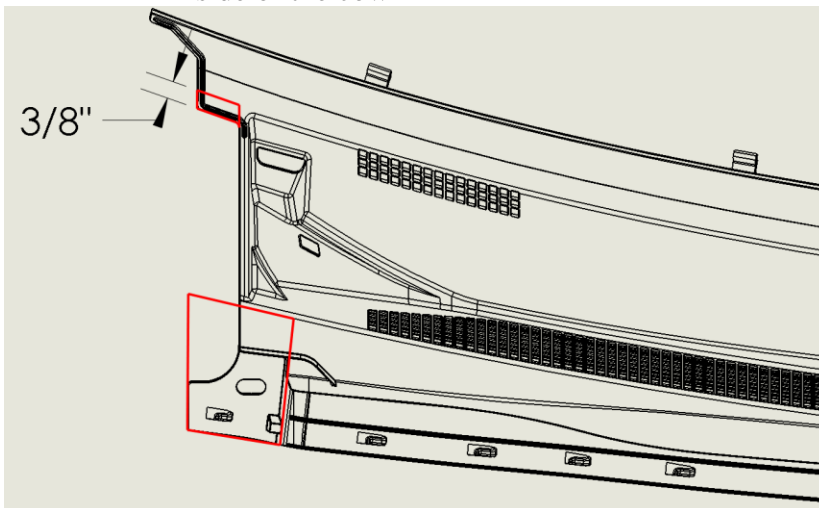

Fig 4
- c. Trim off the areas indicated with the red squares in Fig 4 on the passenger side of the cowl.